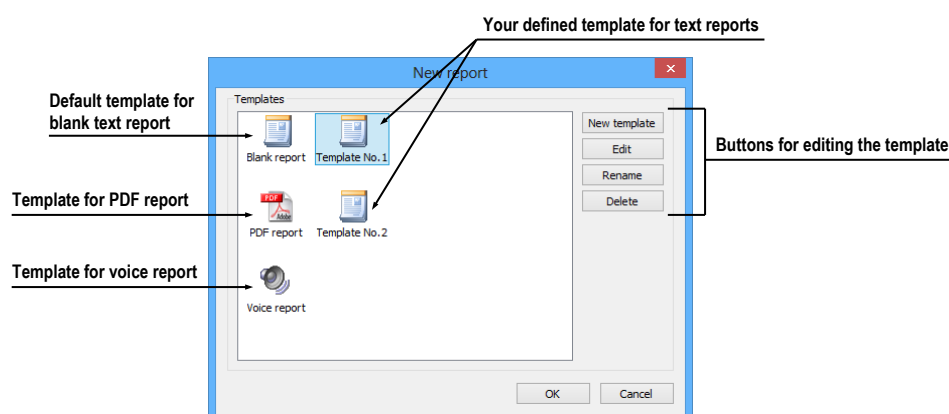

Figure 349 – Template choice dialog
The TomoCon application offers you the possibility of creating three types of structured reports. To create a new report, click the **Create new report** item (the  icon) in the left toolbar of the **Reports** dialog. A new report can be created only if a study is open in TomoCon. The **New report** dialog is then displayed in which you can select the template for the new report (see Figure 349) by double-clicking the template icon.
- Text report - after double-clicking the  text type report icon, you can write a text report in the **Report** dialog that is displayed (see 20.3.2 Report editor). You can select the **Blank report** template or another one of your prepared text templates (Template No.1, see Figure 349). Your text template can define the predefined structure of the new text report.